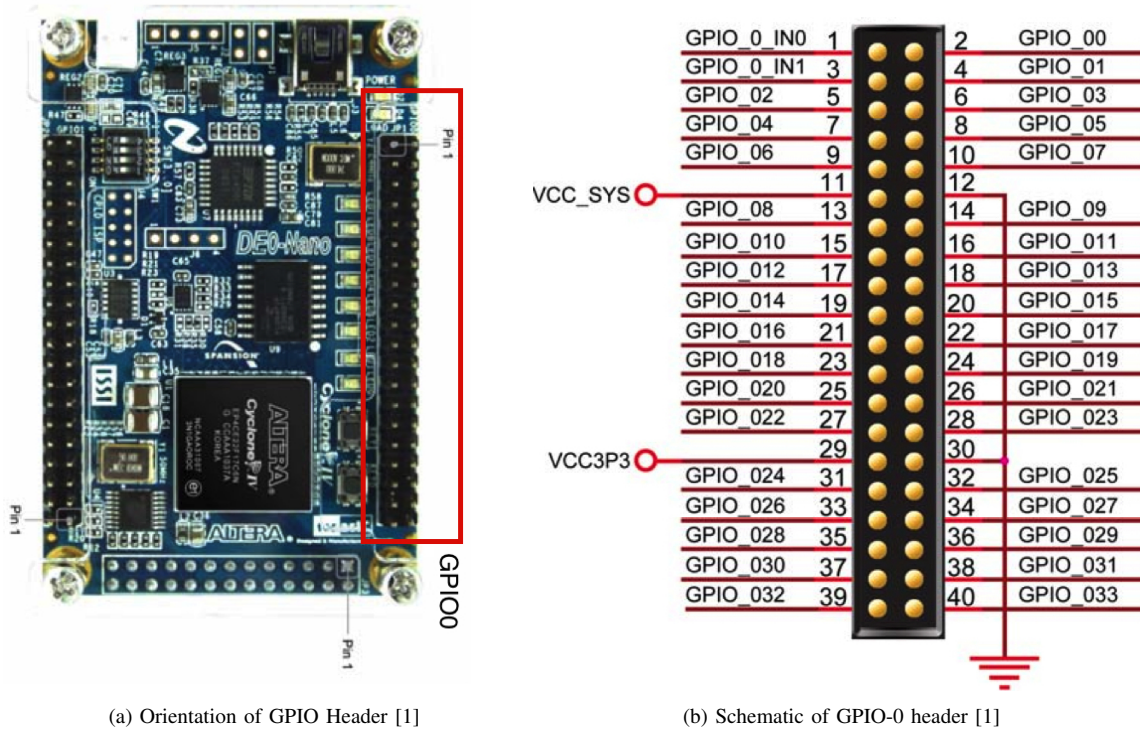

Fig. 5: GPIO0 and it's orientation of the development board
1) *GPIO headers on the DE0-Nano:* Be careful when referencing the pin diagrams in the DE0-Nano user manual. It is easy to read it backwards; that can be a mistake that will cost you hours. It is easiest to match the Nano's orientation with the schematic and count from the nearest edge. Figure 5 shows GPIO 0 next to a schematic of the header. Always check VCC_SYS, VCC3P3, and GND with a multimeter before attaching a circuit you have built. This is the header pin schematic from the DE0-Nano user manual. Inside the Verilog code, these pins follow a different nomenclature. What is labeled as GPIO_0_IN[0] in figure 5 is GPIO0_IN[0] and GPIO_00 is GPIO0[0]. Refer to the DE0-Nano user guide for details on the orientation of the headers.